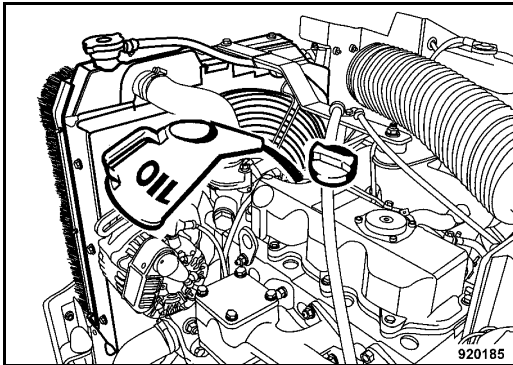

Fig. 137
- Fill in new engine oil (Fig. 137).